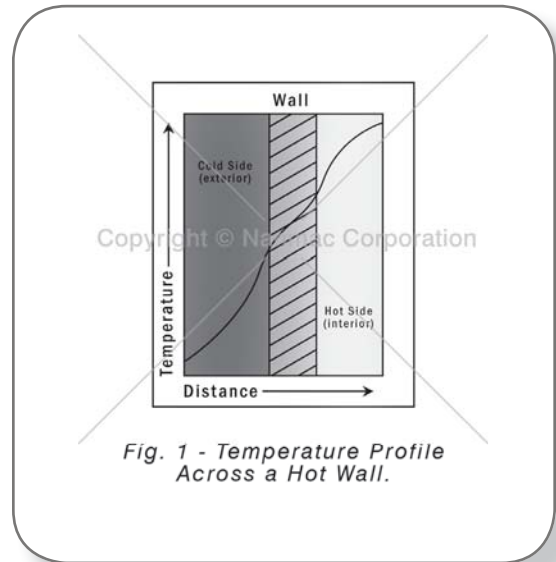

Fig. 1 - Temperature Profile Across a Hot Wall.
Figure 1 illustrates the temperature profile across the wall of a heated chamber at any instant of time. In this illustration, the wall is made of a homogeneous material such as steel or ceramic. If the wall contains several materials, such as steel and insulation plus graphite or ceramic, each homogeneous material will have its own temperature profile.
- Several observations can be made in connection with Figure 1: